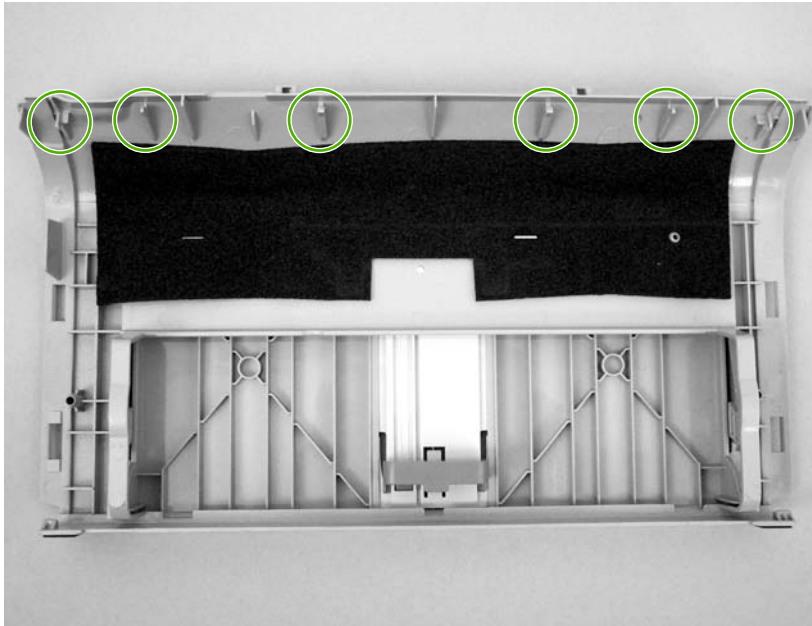

Figure 5-17 Remove the front cover (1 of 3)
2. Before removing the cover, examine Figure 5-17 Remove the front cover \(1 of 3\) on page 71 and note the locations of the plastic tabs at the top of the front cover. Open the print-cartridge door.